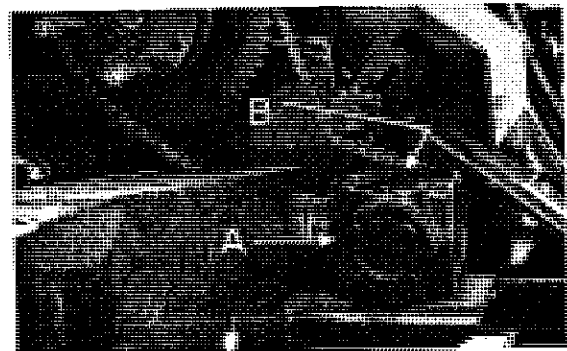

Figure 65. Wheel Elevator Gear Box Oil Level
M. - Slip Clutches - Lubricate the paddle shaft slip clutch (shown below) and the wheel elevator slip clutch (upper left of Figure 65 on the previous page) with one pump every 500 hours or each season.